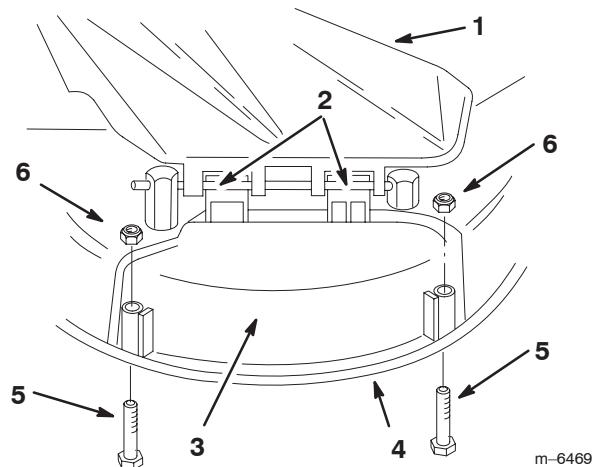

Figure 2
- Lift the grass deflector and slide the tabs on top of the discharge cover under the grass deflector retaining rod. Rotate the discharge cover down over the opening, and onto the lower lip of the mower (Fig. 2).
- Secure the discharge cover to the lower lip of the mower with 2 bolts (1/4 x 2-3/4 inch) and 2 nuts (1/4 inch) (Fig. 2).
- Remove the 2 bolts (1/4 x 2-3/4 inch) and 2 nuts (1/4 inch) that secure the discharge cover to the mower (Fig. 2).